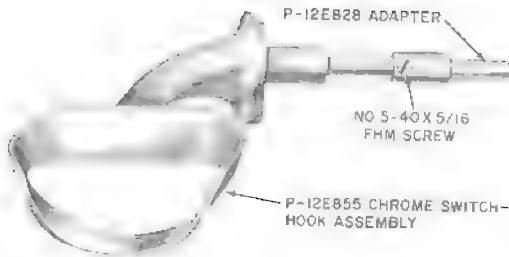

Fig. 11—Two-Piece Switchhook Assembly
2.32 Later models of coin collectors have 2-piece, chrome-plated P-12E855 switchhook assemblies (Fig. 11).